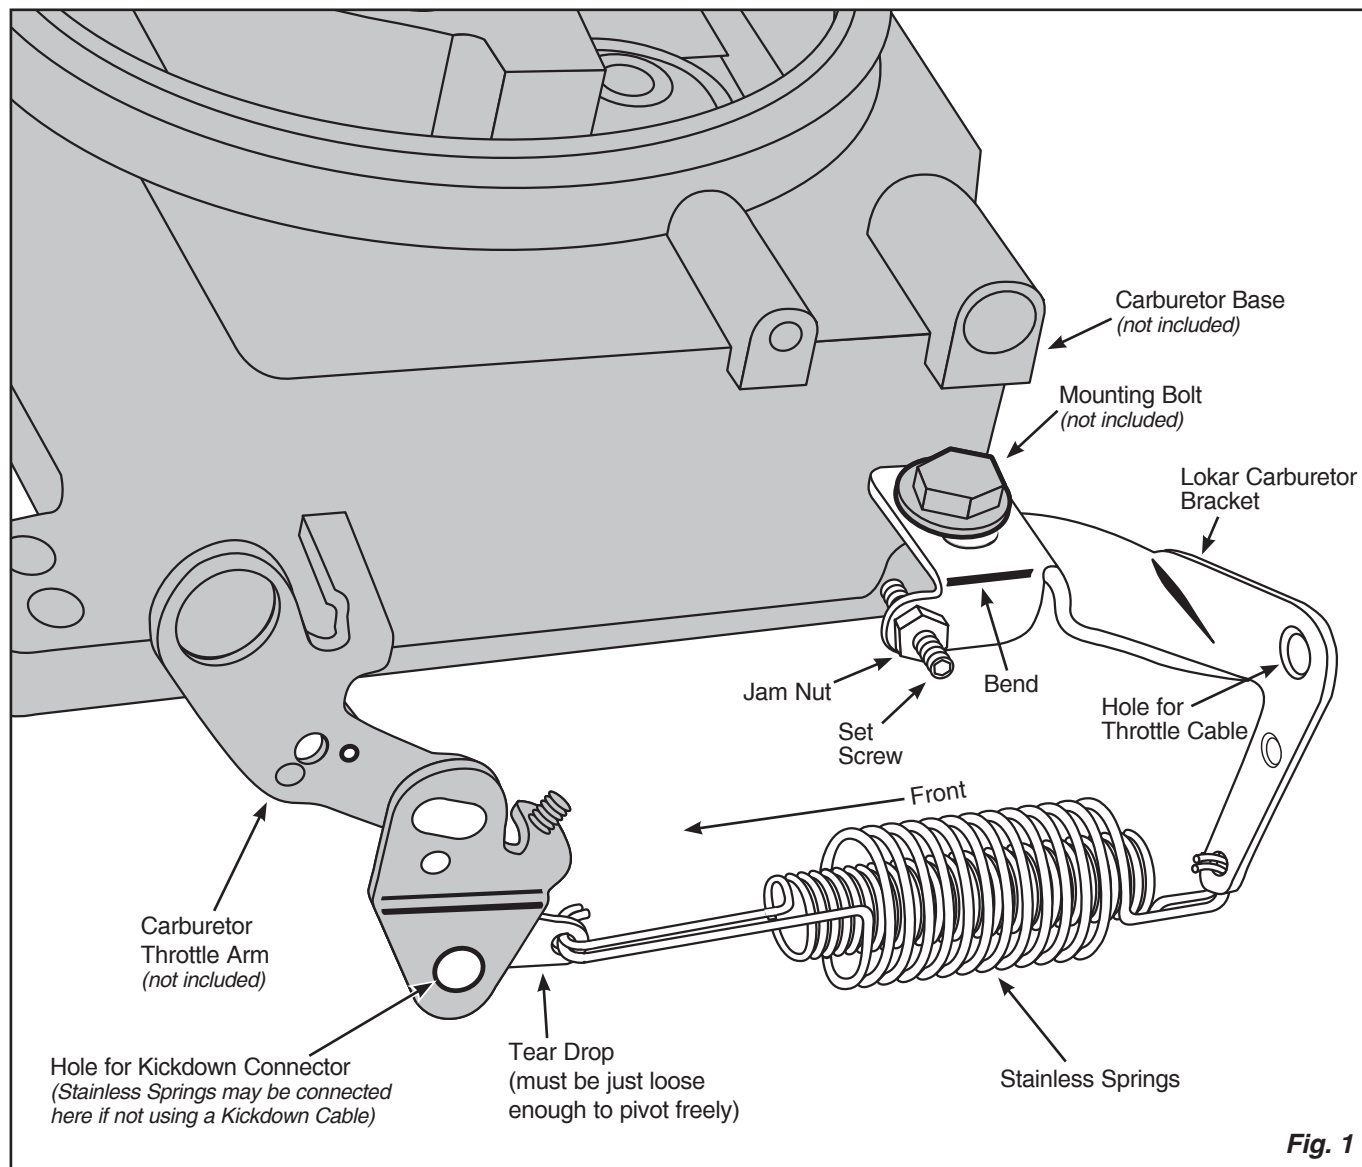

Fig. 1
Step 1: Remove the carburetor base mounting bolt from the left rear corner of the carburetor, and position the Lokar Carburetor Bracket as shown in **Fig. 1**. Install the carburetor base mounting bolt only finger-tight.
Step 2: Position the Lokar Carburetor Bracket so that the bend that is labeled in **Fig. 1** is parallel to the carburetor base front to back.